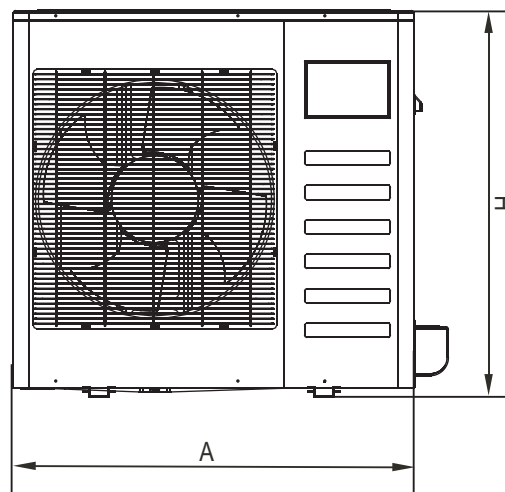
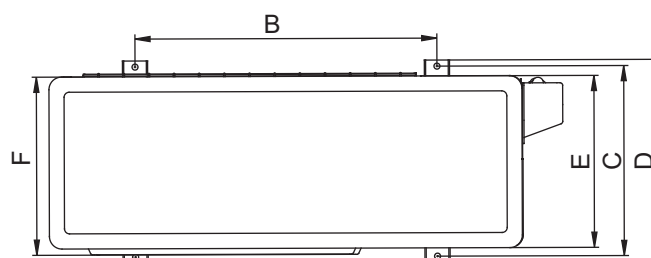

Fig.6-2
Fig.6-4
- The minimum distance between the outdoor unit and obstacles described in the installation chart does not mean that the same is applicable to the situation of an airtight room. Leave open two of the three directions. (Refer to Fig.6-4)
Refer to Fig.6-2~Fig.6-4